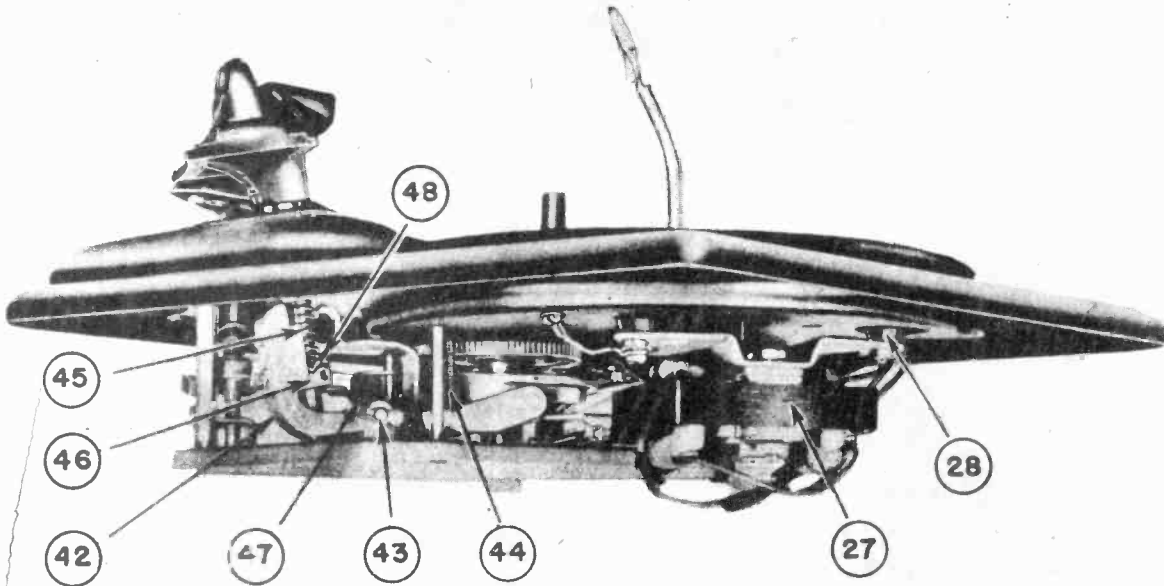

FIG. 5 - PARTS LOCATION -- LEFT SIDE VIEW
- 5 - Selector Lever Stop (illus. 48 Fig. 5).
- 3 - Unhook the Rocker Arm Return Spring. (Illus. 44 Fig. 5).
- 4 - Remove the Rocker Arm Pivot Pin. (Illus. 43 Fig. 5).